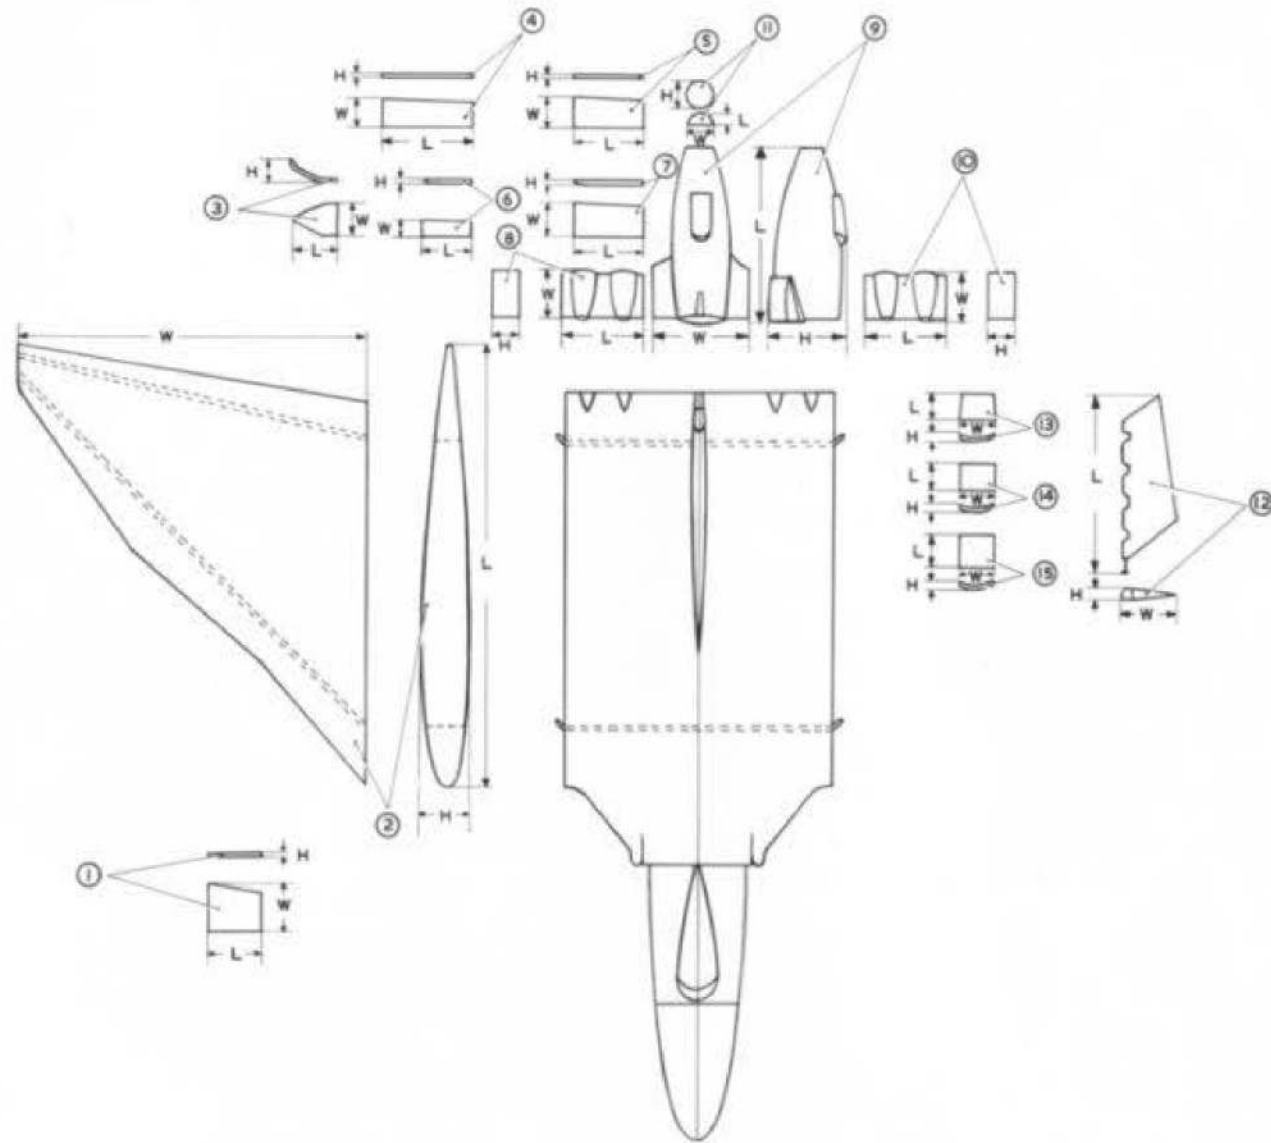

Fig. 2. Component weights and dimensions.
4. Detailed information on the removal of individual sections of the tail position of the aircraft are given in the relevant chapters in Sect.3, or Sect.4 of this book. The sections are illustrated in fig.2 of this chapter and the suggested sequence of dismantling is as follows:-
## KEY TO FIG.2
KEY TO FIG 2.